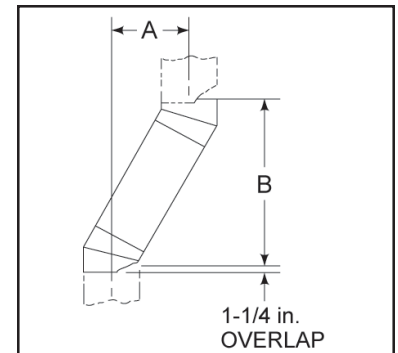

Figure 7 - Chimney Offset/Return
- 1) Measure how far the chimney needs to be shifted to enable it to avoid the overhead obstacle. See Figure 7, dimension "A" to determine chimney sections required to achieve the needed shift.
**Example:** Your "A" dimension from Figure 7 is 14½". Using Table 1 the dimension closest to, but not less than 14½" is 14⅝" using a 30° offset/return. It is then determined from the table that you would need 33" (Dimension "B") between the offset and return. The chimney components that best fit your application are two SL312s.